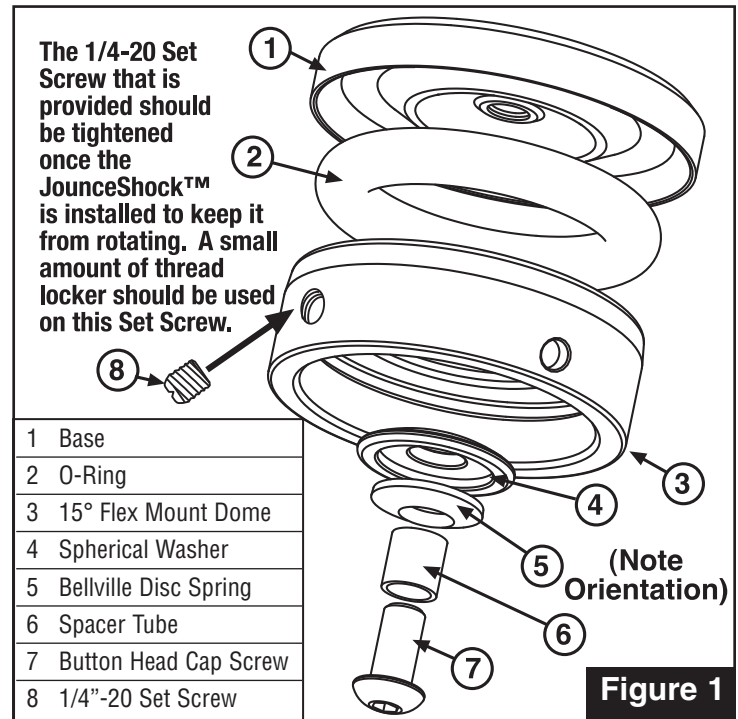

Figure 1
7. Using a small dab of medium strength thread locker (Blue Loctite) on button head cap screw, assemble 15° Flex Mount Assembly (as shown in **FIGURE 1**). Make sure Bellville Disc Spring centers on Spacer Tube. Torque to 20 lb-ft. (Follow all Loctite cure time instructions.)